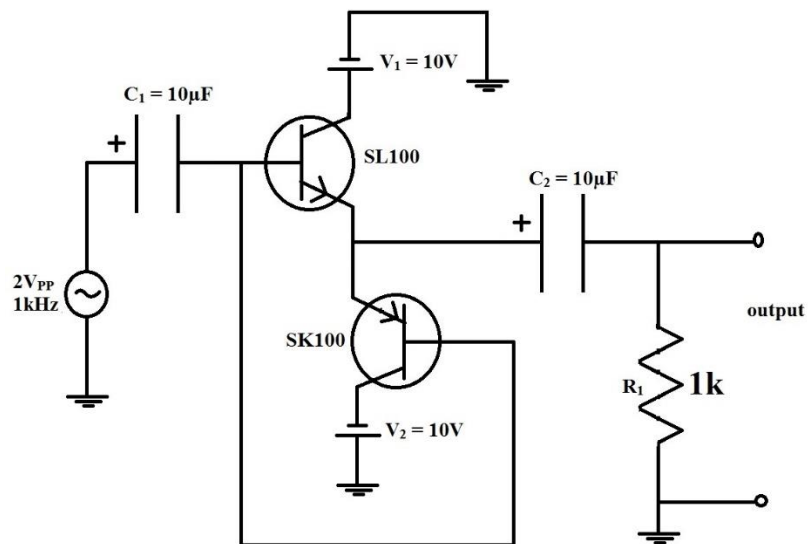

Fig 4.1: Complementary symmetry push pull amplifier
1. Rig up the circuit as shown in Fig 4.1.